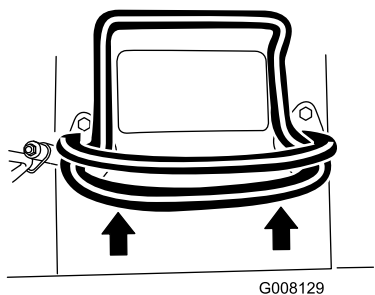
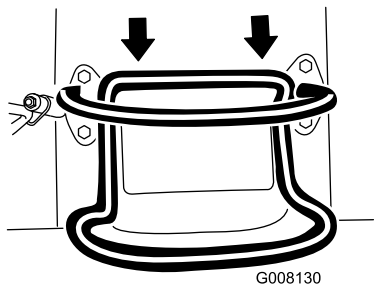

Figure 7
Figure 8
- To move forward, move the traction control forward (Figure 7).
- To move rearward, move the traction control rearward (Figure 8). **When reversing, look behind for obstructions and keep your hands on the reference bar (Figure 7).**